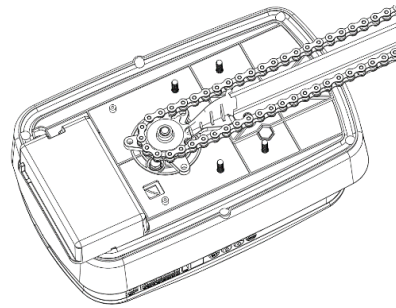

Figure 23
STEP2 (Fig.23)
Join the battery to opener, find the Fig.23